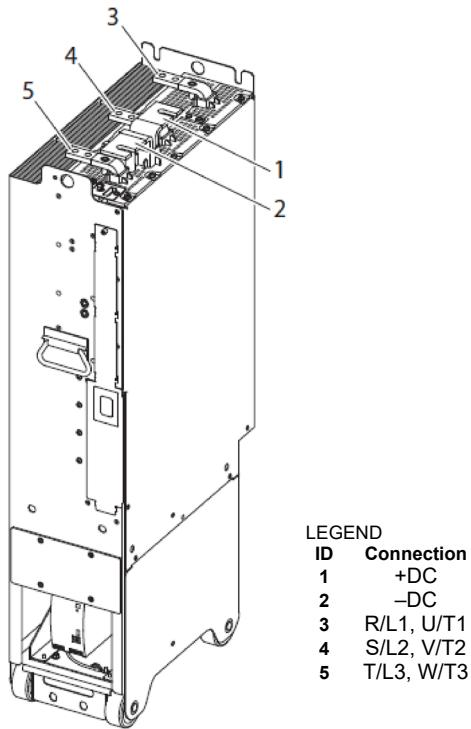
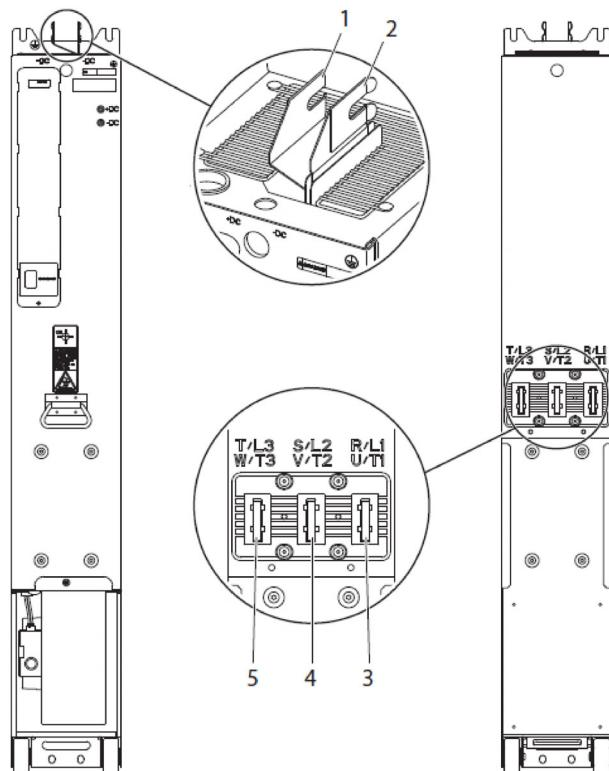

Fig. 35 — Frame 7 Power Module
Fig. 36 — Frame 8-15 Power Module
5. Use a multimeter to check the input diodes and output IGBTs if a fuse is open. See Table 8. Multimeter must have a function to select "Diode Test" mode. See Fig. 35 for Frame 7 power module (19MV) and Fig. 36 for Frame 8-15 power modules (19XR).